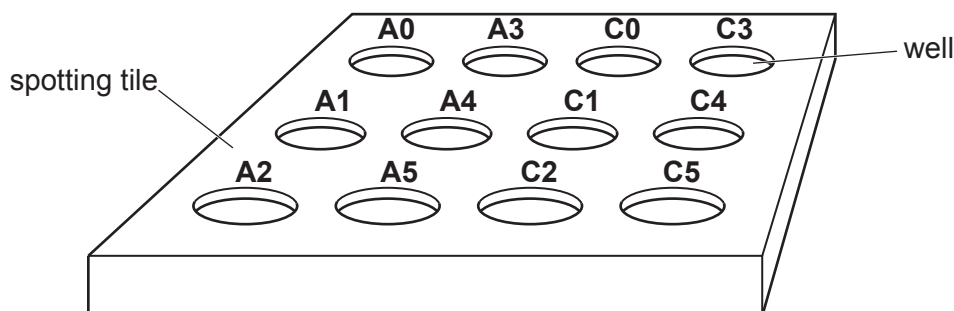

Fig. 1.1
Step 7 Label the wells on a spotting tile as shown in Fig. 1.1.